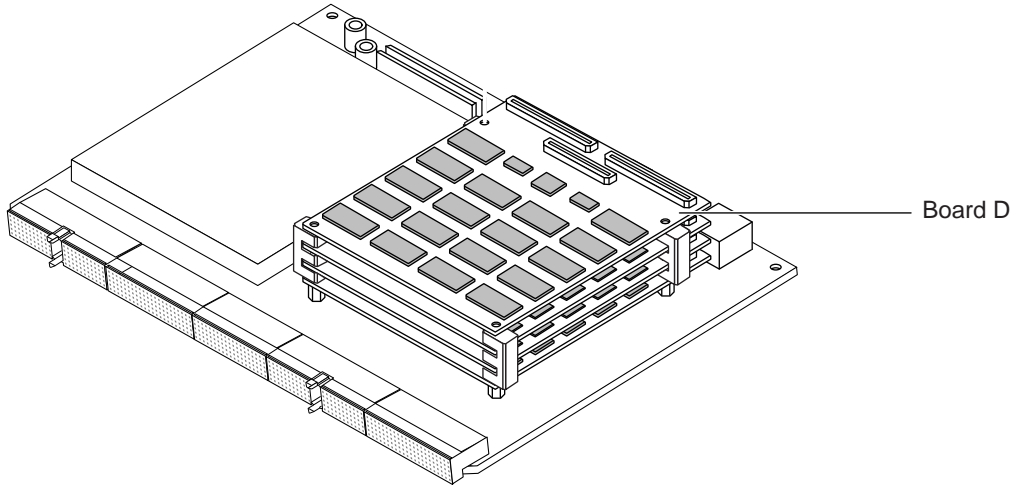

FIGURE A-13 Four Stacked Memory Boards on the Netra t1 Motherboard
8. Align the connectors of Board D to the sockets of Board C, but do not press down yet to seat Board D (see FIGURE A-13).